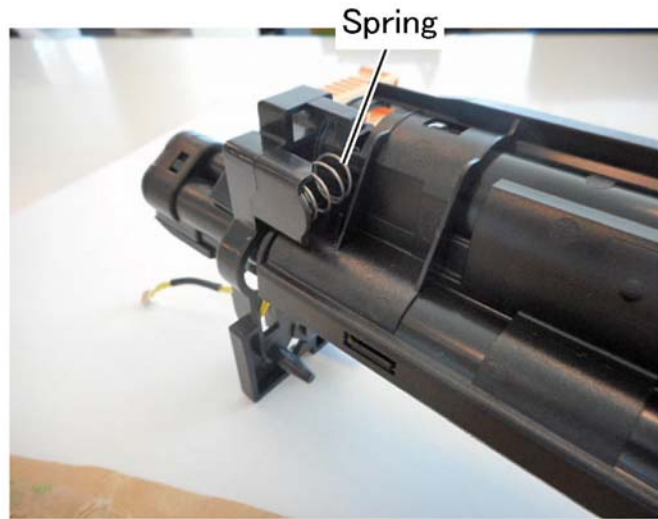

Figure 12 Spring
2. Ensure that the spring of developer front cover should be contacting the upper SUB cover assembly, Figure 12.